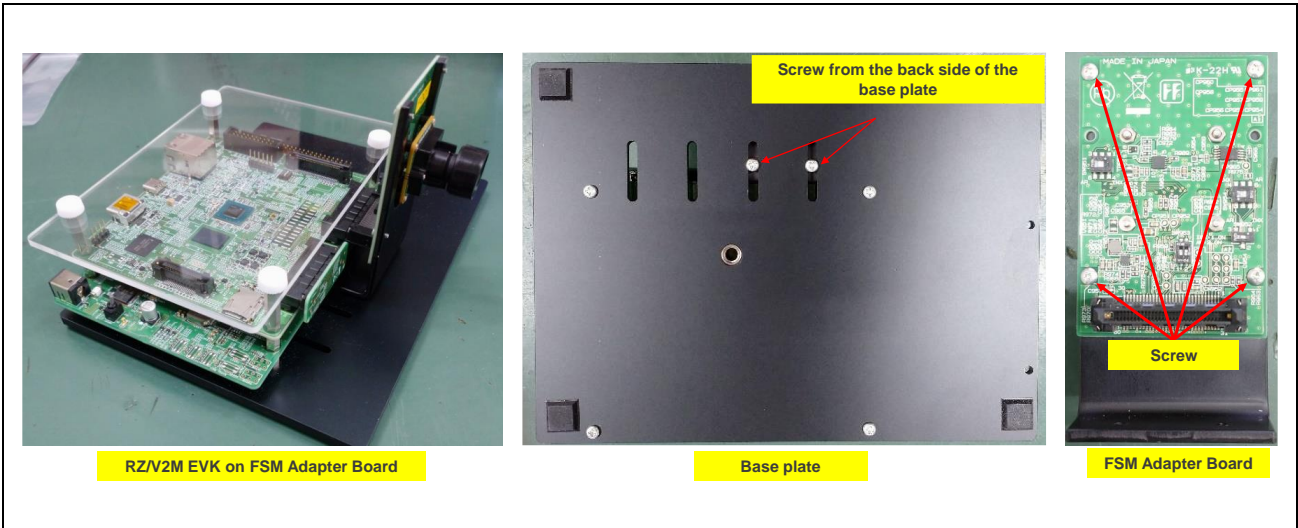

Figure 3.1-5 Screws (FSM-AR1335)
- Screw (See **Figure 3.1-5**)